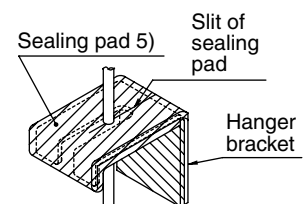

Fig. 6
5. Insulate the four hanger brackets with the sealing pad. (accessory 5) Insulate the hanger brackets so that the surface and edges of the hanger brackets cannot be seen. (Refer to Fig. 6)